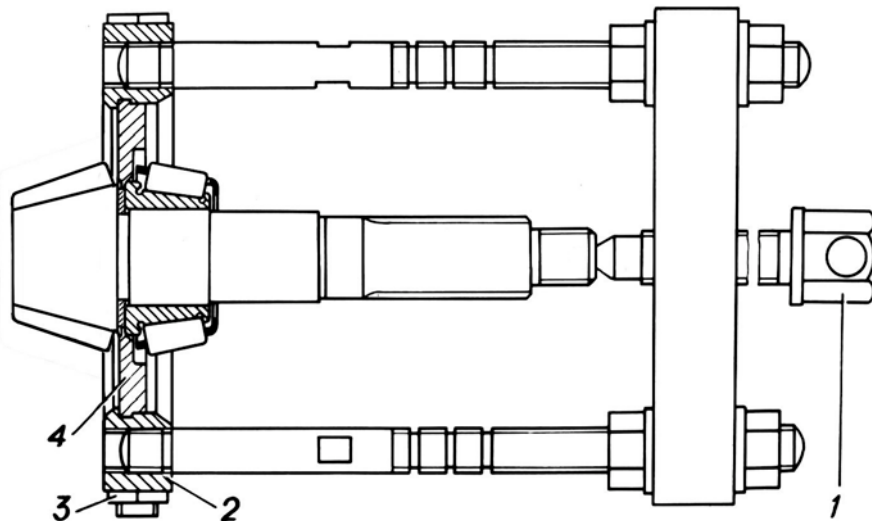

Fig. 3.40. Bearing removal from the final drive gear: 1 – puller screw; 2 – support; 3 – nut; 4 – insert
- remove the bearing spacer bushing and compress the drive gear rear bearing inner ring with the puller as shown in Fig. 3.40. To fit insert 4 shoulders tightly between the bearing cage and gear, squeeze supports 2 with bolts and nuts 3. Remove the bearing inner race by turning the screw 1;